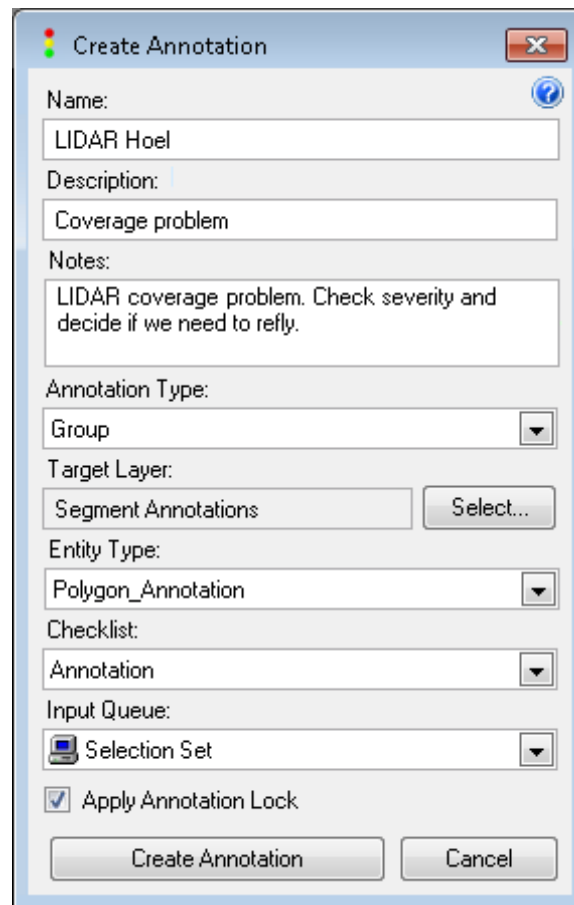

Figure 19-5 The annotation values for the "LIDAR Hole"
- Populate the dialog as shown in Figure 19-5 (the note “LIDAR coverage problem. Check severity and decide if we need to refly.” pertains to the resolution of the LIDAR strip gap). Notice that we are using the Annotation layer that was created in the previous example. This is not required – you could create a new layer if you wanted to sort different types of annotations by layer. However, it must be a polygonal annotation